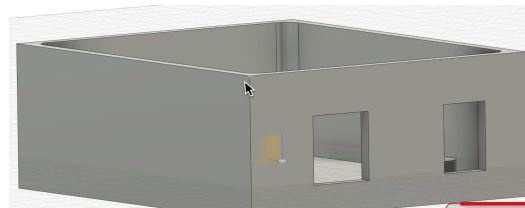

Figure 1.5
- Select both offset profiles and use '**Extrude**', setting the direction to '**Cut**' through the wall. Confirm that the Operation is set to '**Cut**', then click OK to create the openings (see Figure 1.5).